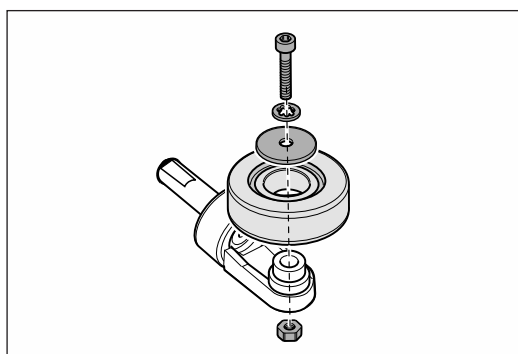

Fig. 61 Remove the screw with the washers and nut in the center of the wheel and take off the rear wheel. Assemble in reverse sequence.
- 6** Release the screw in the center of the wheel and remove the screw, washers and nut (fig. 61). Ensure that you do not lose the nut.